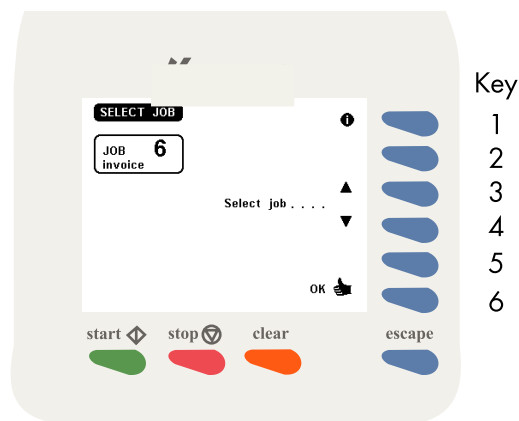

Fig. 16
After pressing key 2 in the "main menu", the display shows the "select job" menu (see Fig. 16). The "select job" menu shows the following functions:
- job data (key 1).
- select a higher job number (key 3).
- select a lower job number (key 4).
- confirm with "OK" (key 6) which will get you back to the "main menu".